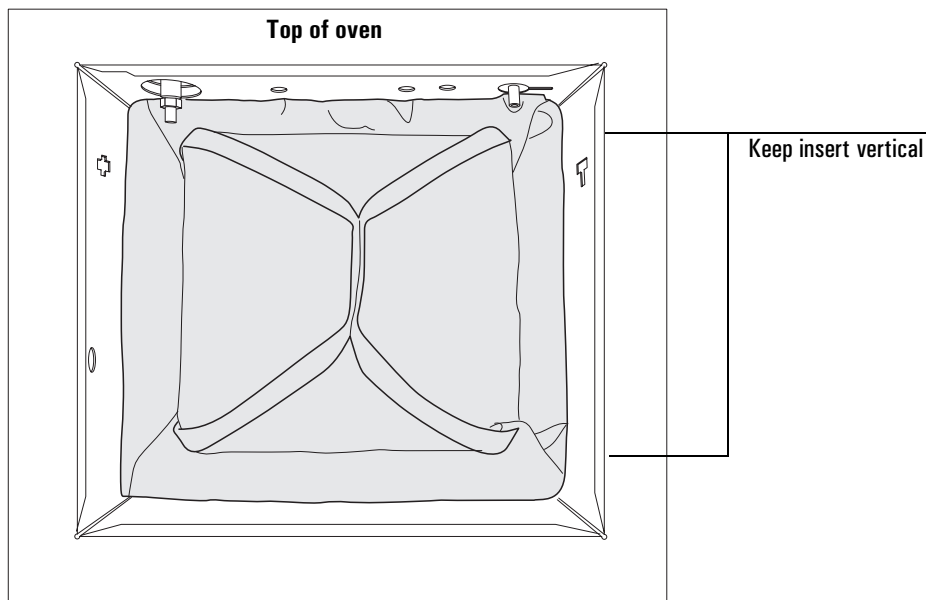

Figure 21 Oven insert installed in the oven
3. Push the bottom of the insert into place as shown in Figure 21. Keep the insert upright as shown.